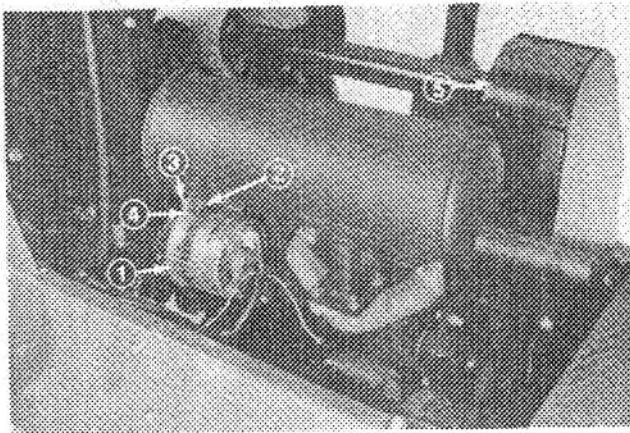

Figure 51
3. Loosen bolt securing brace to engine and bolt securing alternator to brace (Fig. 51).
4. Insert pry bar between alternator and engine and pry out on alternator (Fig. 51).
2. Remove capscrews (5) securing fan belt guard and remove guard (Fig. 51).
5. Install fan belt guard and secure with capscrews (Fig. 51). Close and latch hood.
4. Install fan belt guard and secure with capscrews (Fig. 51). Close and latch hood.